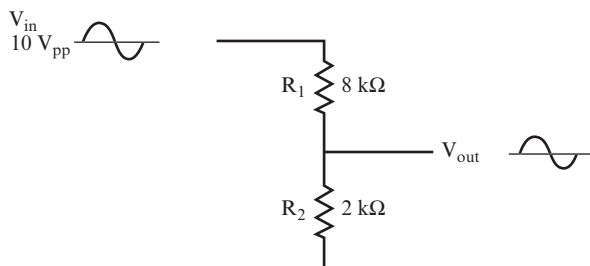

FIGURE 5.5
- 11** You apply an AC signal of $10 V_{pp}$ to the voltage divider circuit, as shown in Figure 5.5.